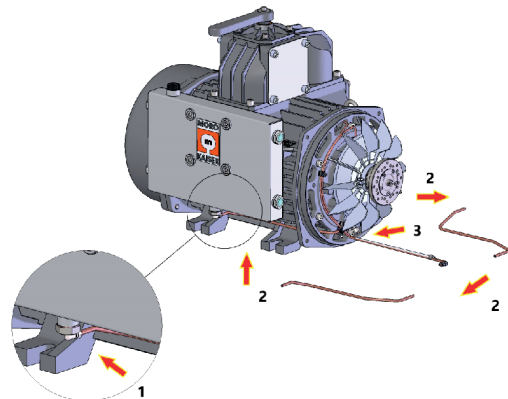

Fig. H.12 - Phase 0080
- Remove the oil suction pipe, turn it 180° and reposition it on the opposite side (**pos.2 Fig. H.12**).
- Reconnect the pipe (**pos.2 Fig. H.12**) (spanner ch10) to the oil tank connection (**pos.1 Fig. H.12**).
- If necessary, adjust the plastic oil suction pipe by loosening the intermediate fitting (spanner ch 12) (**pos.3 Fig. H.12**).